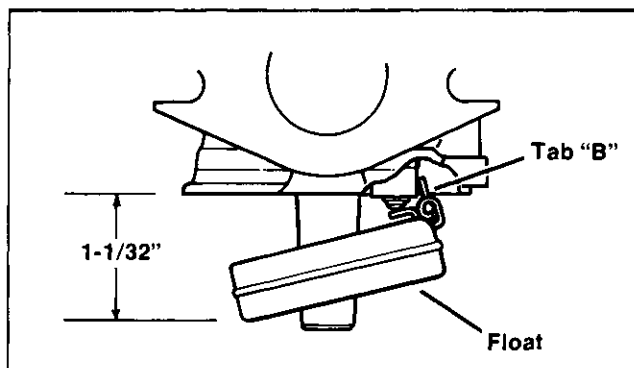

Figure 4-5. Setting Float Drop
- 3. Set float drop.** With carburetor in normal operating position, float drop should be limited to $1-1/32"$ between machined surface of casting and free end of float. Adjust by bending float tab "B." See Figure 4-5.